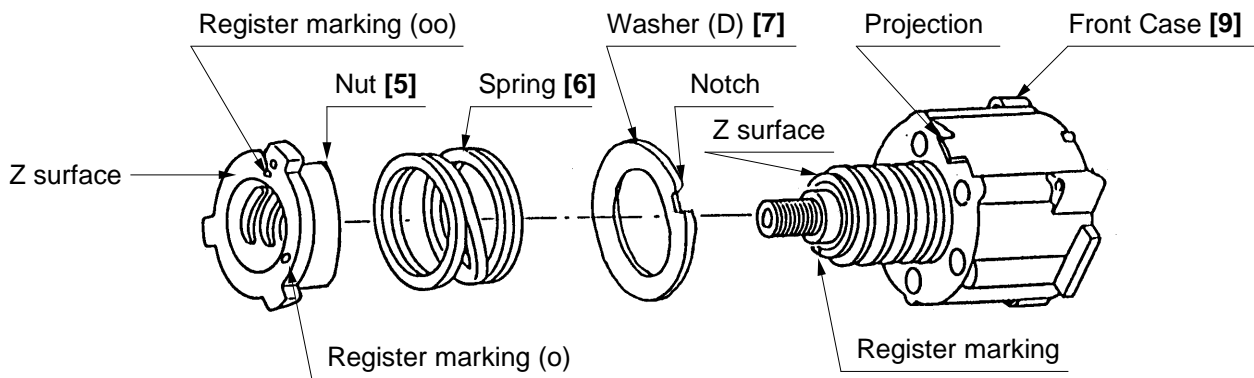

Fig. 9
(2) Reassembly of the clutch unit
- (a) Install the Washer (D) [7] and the Spring [6] into the Front Case [9]. (See Fig. 9)